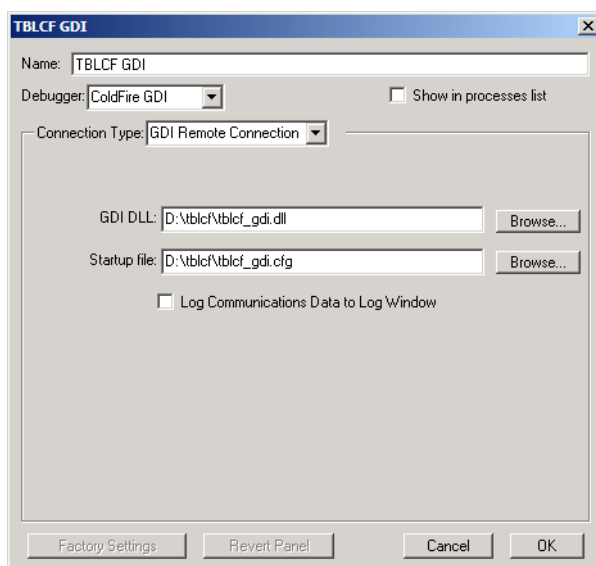

FIGURE 14. “New Connection” dialogue
4. Click “Add...”. Enter a name of your choice (e.g. “TBLCF GDI”), select the “ColdFire GDI” from the “Debugger” drop-down list and enter path to the `tblcf_gdi.dll` (see figure 14). Enter path to a configuration file in case you